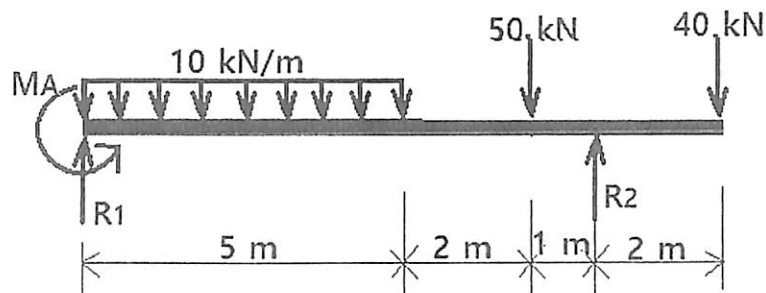

Figure Q4
- (b) Using Singularity Functions, express the shear forces and bending moment in the beam shown in Figure Q4, and draw the shear force and bending moment diagrams for the beam and indicate principal values. Loads and dimensions are indicated in the diagram. (7 Marks)